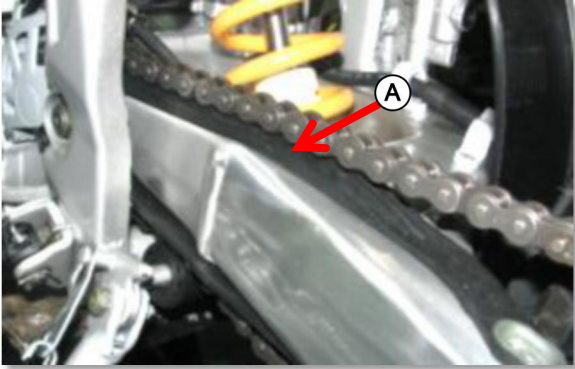

Fig. 1
1. Check the slider **A** for wear Fig. 1